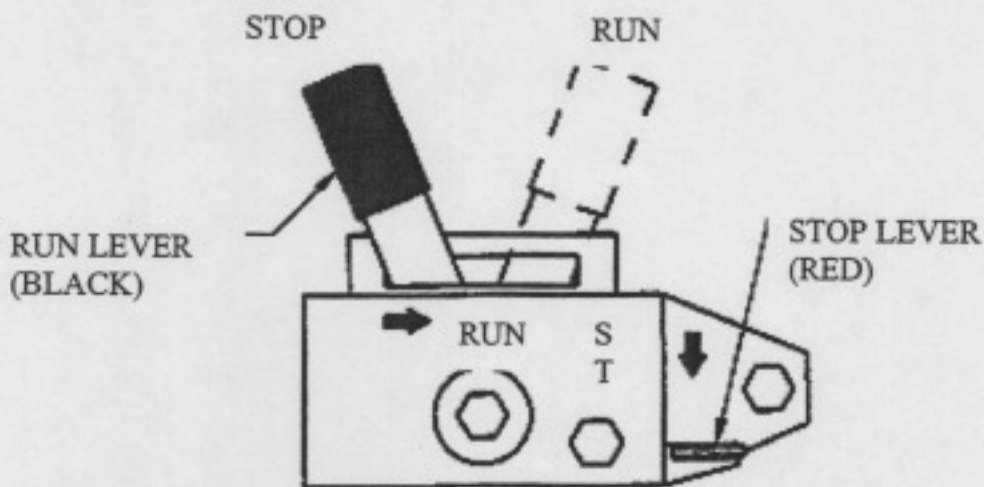

Figure C-5. Engine RUN and STOP Controls
7. Pull the recoil starter (1) slowly. Stop when it feels tight.
8. Depress decompression lever "A" (3).
9. Move engine RUN lever (4) to RUN position (Figure C-5).
7. Connect a 24 VDC battery source to the NATO slave receptacle (11).
8. Move the engine RUN lever (4) to the RUN position (Figure C-5).
- 6. Connect a 24 VDC battery source to the NATO slave receptacle (11).
- 7. Move the engine RUN (4) lever to the RUN position (Figure C-5).
6. Connect a 24 VDC battery source to the NATO slave receptacle (11).
7. Move the engine RUN lever (4) to the RUN position (Figure C-5).